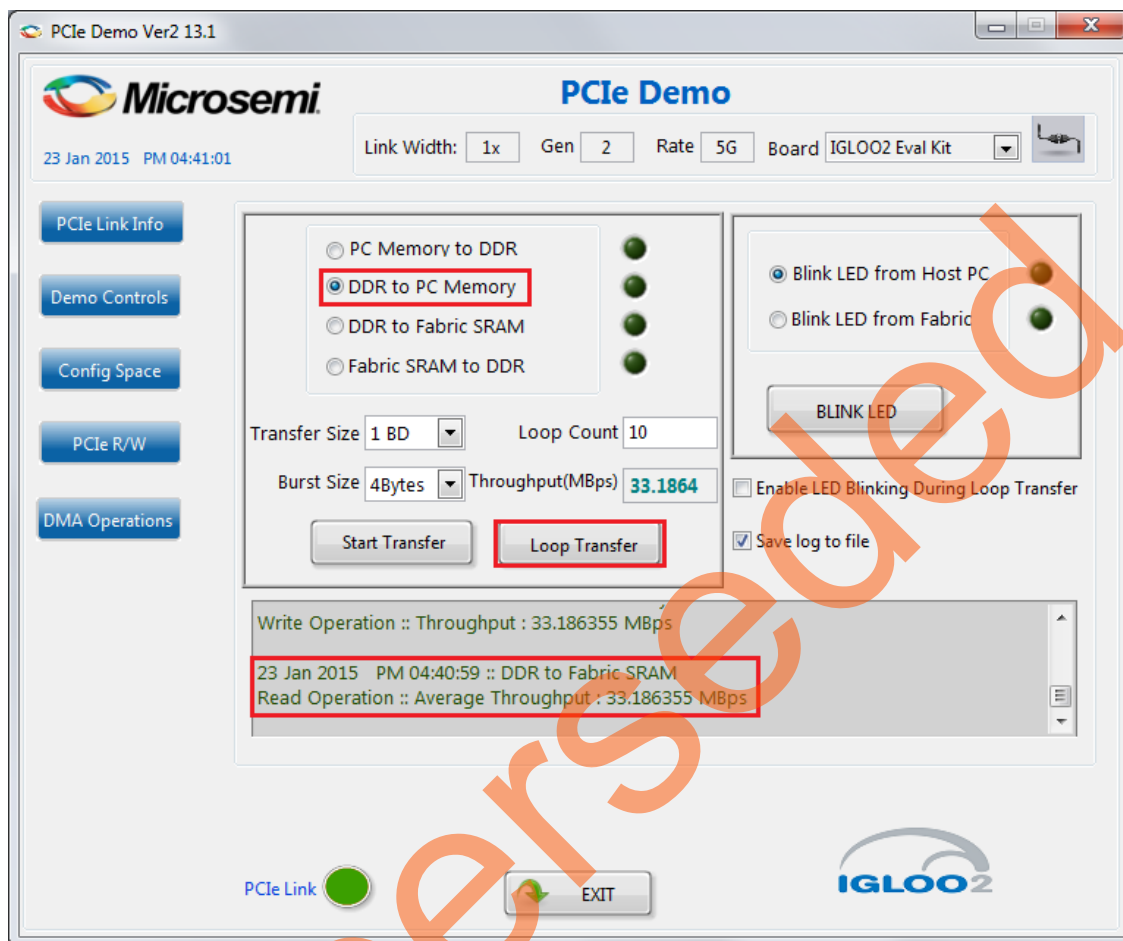

Figure 28 • DDR to PC Memory DMA Loop Transfer
21. Select the type of DMA transfer as **DDR to PC Memory**. Select any **Transfer Size** and click **Loop Transfer** as shown in Figure 28.